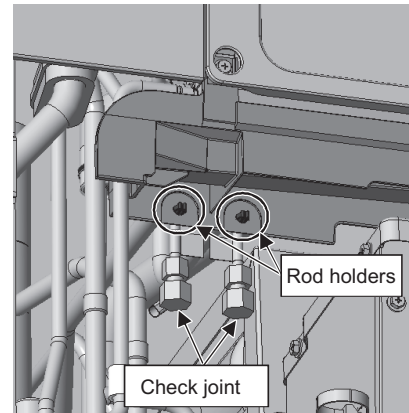

Figure 8
- (2) Hold the check joints to the drain pan with two rod holders. (See Figure 8.)